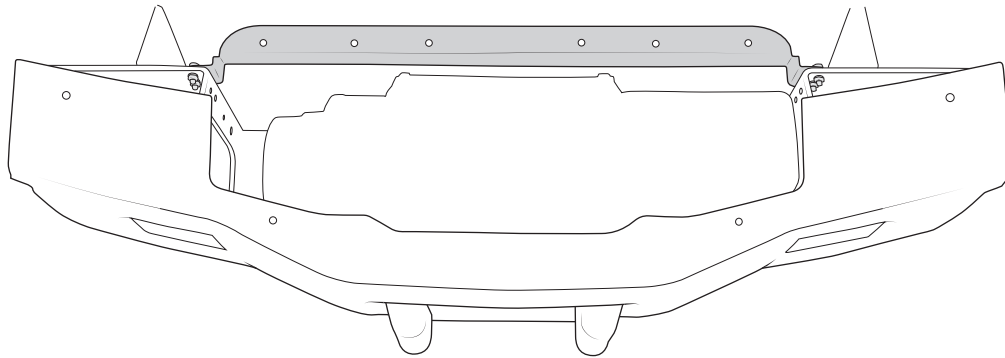

Figure 27
9. **DIESEL trucks continue to section F**, for 2014+ GAS trucks, install the air dam bracket to the bumper using the supplied hardware (fig. 27). Torque to **9 lb-ft.**